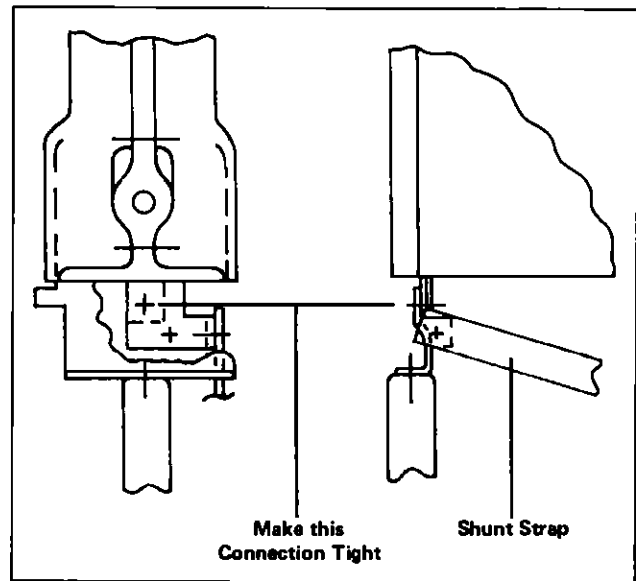

Fig. 60 Connect Shunt Strap
**CONNECT SHUNT STRAP (FIG. 60)**